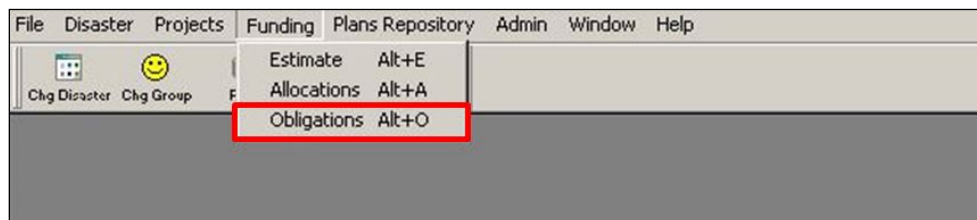

Figure 10-55: Mitigation > Funding > Obligations
- a. On the MITIGATION menu, click on Funding > Obligations (Figure 10-55).